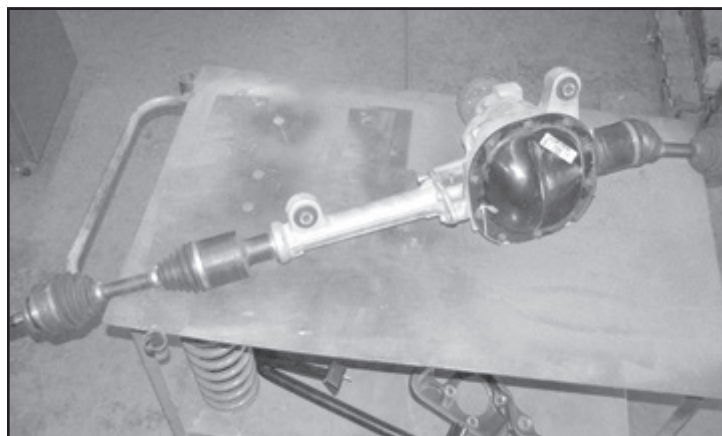

FIGURE 7 - STEP 15
15. Remove the driver side rear differential mount hardware and discard. While supporting the differential, remove the two upper differential mount bolts and remove the differential and axles from the vehicle. Save the hardware. **SEE FIGURE 7**